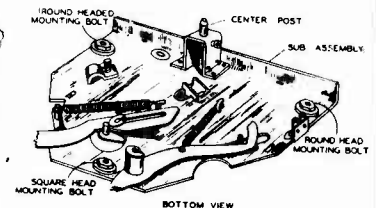

Figure 12
1. Loosen the three sub-assembly mounting bolts. (Figure 12.)
4. Tighten the nut on the end of the square head mounting bolt. (Figure 12.)
5. Remove the turntable and tighten the other two mounting bolts. (Figure 12.)